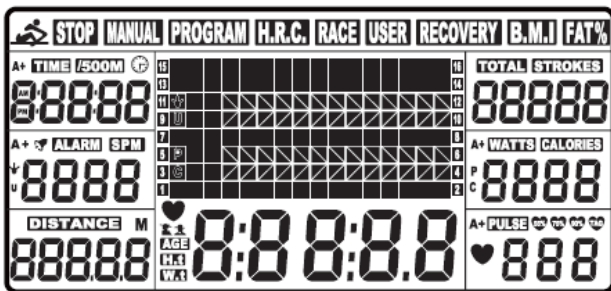
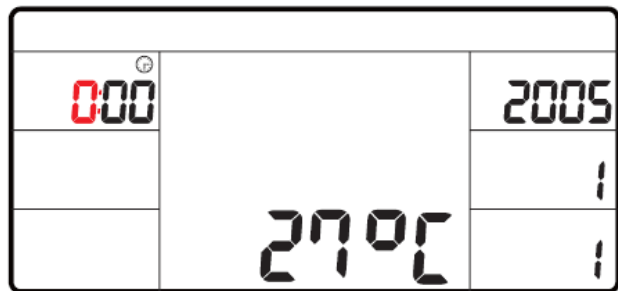

Fig. 1
Fig. 2
1. Install 2 AA batteries (included) and the console will beep for 2 seconds (Fig.1). Then the console will enter into the CLOCK & CALENDAR MODE (Fig.2).